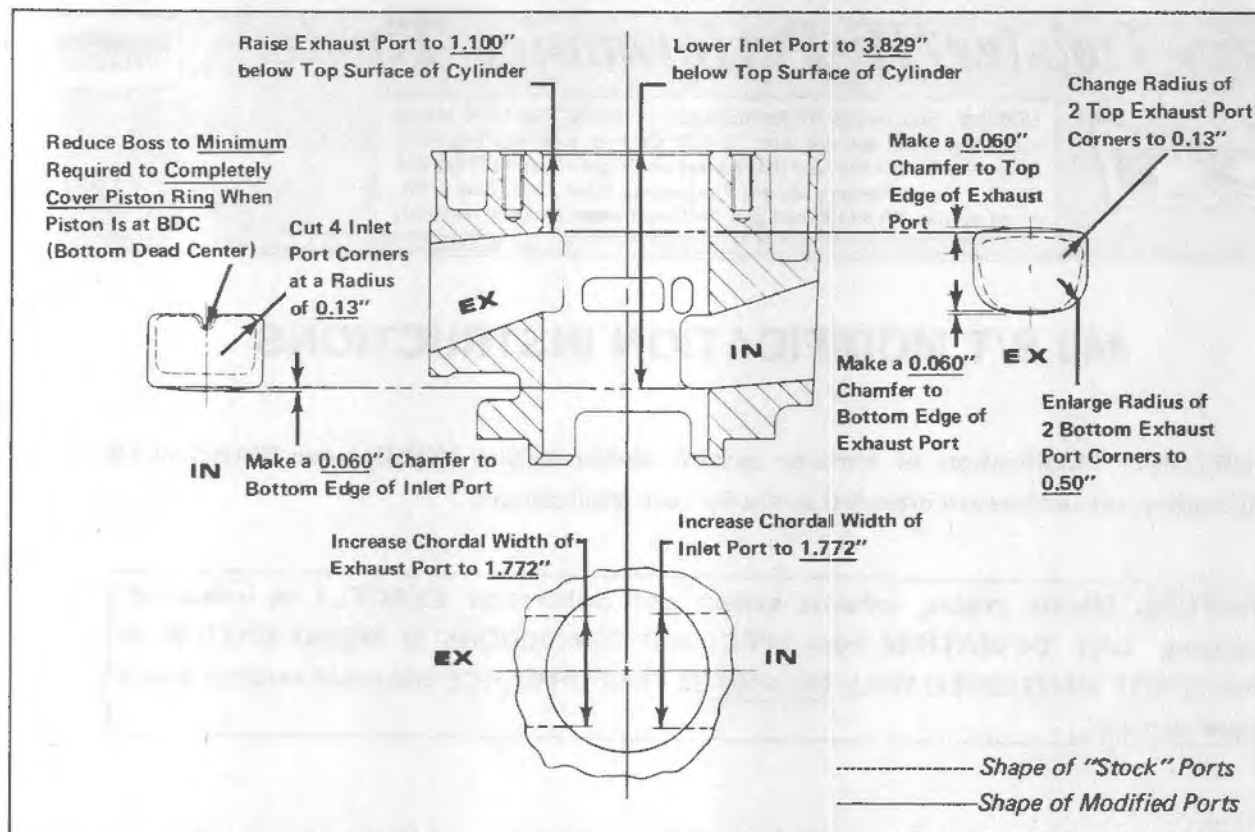

Figure 1. 440 S/T "Modified-Stock" Cylinder Dimensions
- a. Raise top edge of exhaust port to a point 1.100" (27.94mm) below top surface of cylinder. (Figure 1) DO NOT change bottom edge of exhaust port.
- b. Increase chordal width of exhaust port to 1.772" (45.00mm). (Figure 1)
*NOTE: Chordal width (Figure 1) is straight line distance between side edges of port (not following curvature of cylinder wall).*
- c. Change radius of 2 top exhaust port corners to 0.13" (3.30mm). (Figure 1)
- d. Enlarge radius of 2 bottom exhaust port corners to 0.50" (12.70mm). (Figure 1)
- e. After grinding exhaust port, make a 0.060" (1.52mm) chamfer to top and bottom edges of exhaust port. (Figure 1) DO NOT chamfer side edges of port.
- Lower bottom edge of inlet port to a point 3.829" (97.26mm) below top surface of cylinder. (Figure 1) DO NOT change top edge of port.
- Increase chordal width of inlet port to 1.772" (45.00mm). (Figure 1)
- Cut 4 inlet port corners at a radius of 0.13" (3.30mm). (Figure 1)
- Reduce boss at top edge of inlet port to a minimum. (Figure 1) Boss must be large enough to completely cover piston ring when piston is at BDC (bottom dead center).
- After grinding inlet port, make a 0.060" (1.52mm) chamfer to bottom edge of inlet port. (Figure 1) DO NOT chamfer side edges or top edge of port.